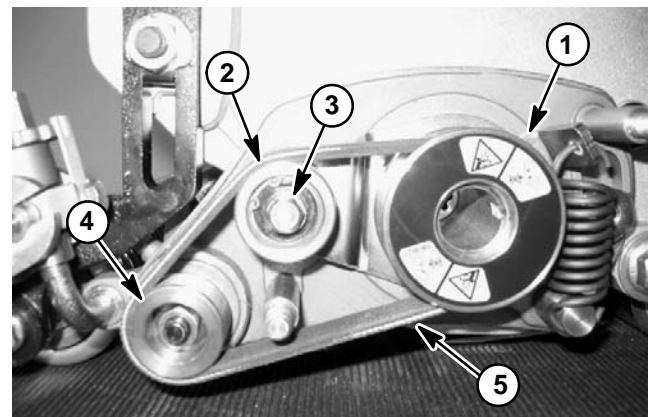

Figure 5
4. Pivot idler pulley by placing a 12mm wrench on pulley nut and rotating idler bracket to relax belt tension. Slip groomer drive belt off pulleys (Fig. 5). Carefully release idler bracket.
5. Install new drive belt to drive pulley, idler pulley and driven pulley observing correct belt routing (Fig. 5).